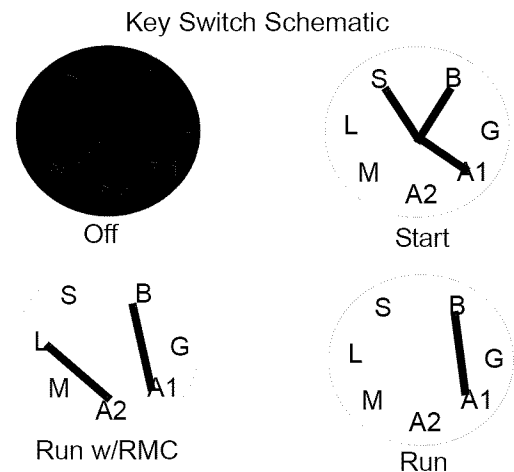

Figure 7.2
- In the **OFF** position, continuity can be found between the M, G, and A1 terminals. See Figure 7.2.